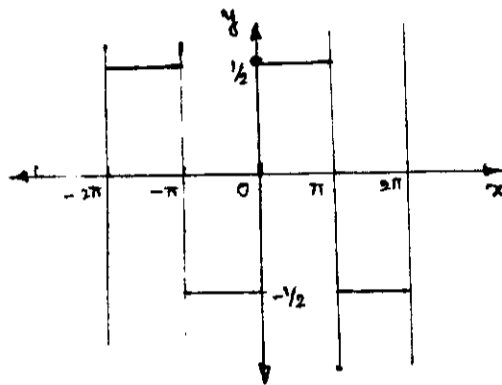

Fig.Q.1(b)
- b. Develop the Fourier series for the curve shown in Fig.Q.1(b). (10 Marks)